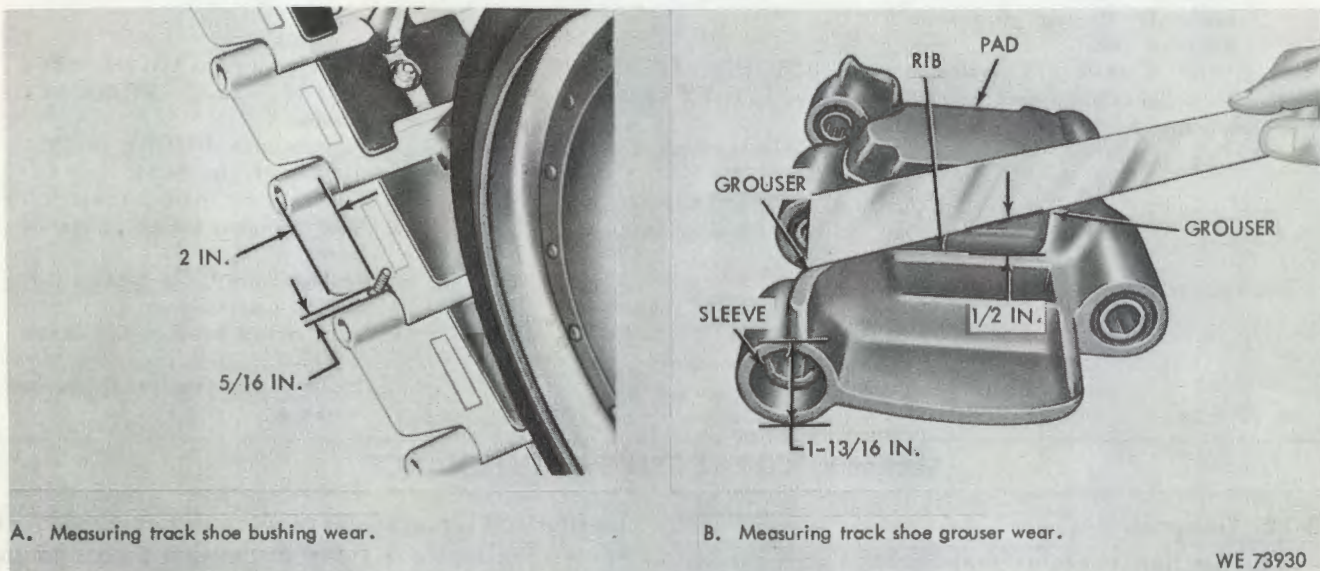

Figure 3-1.1. Measuring wear of track shoe bushing and grouser.
(1) *Bushing wear* (A, fig 3-1.1).
(2) *Grouser wear* (B, fig 3-1.1).